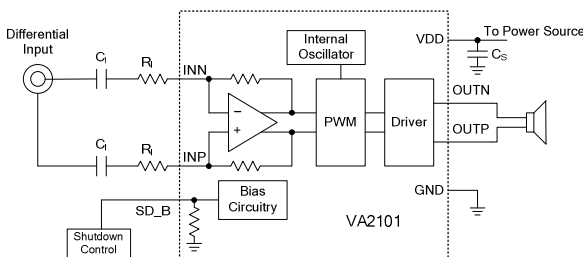

Figure 2. Differential Input Configuration with Input Capacitors
The input capacitors may be needed for some applications or when the source is single-ended (See Figure 2). These capacitors will not only block the DC voltage at the amplifier input terminal but also create a high-pass filter together with the input resistors  $R_i$ . The cut-off frequency of the high-pass filter is calculated according to the following equation:
If necessary, the input capacitors can be also used in the differential input configuration shown in Figure 2. The reason to do so is usually to create the high-pass filter in audio signal input. In case of applying the high-pass filter, equation (1) listed above shall be used to find out the value of the  $R_i$  for a proper gain and then using equation (2) to